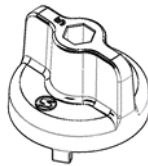

Figure 2: Wrench for the Locking Ring
- The wrench for the locking ring (Figure 2) is attached to the E-Stop device.